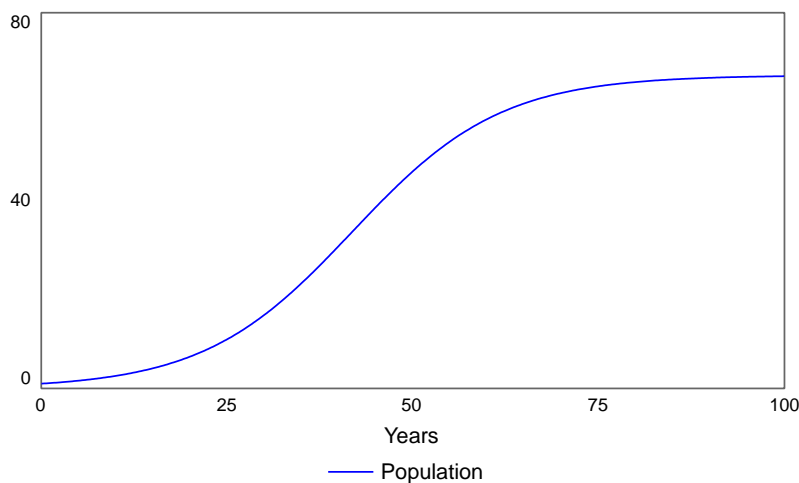

Figure 16: S-shaped behaviour of limits-to-growth model Figure 15
The behaviour, is the familiar S-shaped growth (if the birth rate is high enough), Figure 16:
- If you have constructed the model ensure Run Specs has RK4 with DT of 0.02, start time 0, end time 100. Ensure there is also a graph as in Figure 16.